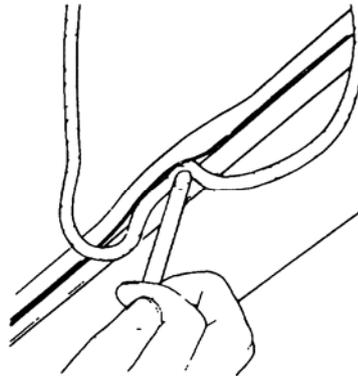

Figure 34 Rubber Seal – Installing Rope
- g.** Using approximately 5 metres of rope with a diameter of 7 mm, insert the rope into the groove of the rubber (refer Figure 34), starting at the bottom centre of the acrylic plastic and leaving enough rope at the start to enable it to be pulled on installation.